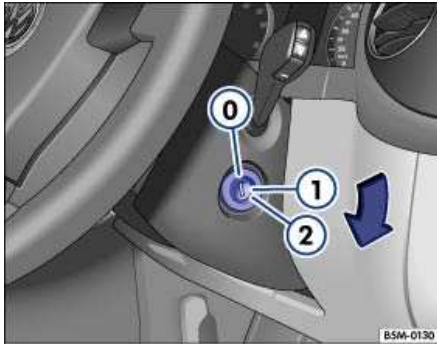

Fig. 1 Ignition switch key positions
(0) Ignition off
In position (0) the ignition is switched off and the steering column is locked ⇒ Fig. 1.
- Turn the ignition key to position (2) and start the engine ⇒ Fig. 1.
- Push the ignition key to start the engine ⇒ Fig. 1 (2).
- Push the ignition key in to release it, so it springs back to position ⇒ Fig. 1 (1).